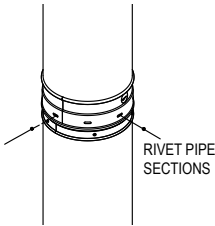

Figure 8
Duraliner pipe (flex and rigid) has male and female connectors with (4) pre-punched holes and slots that line up and are connected with stainless steel pop rivets **(Fig.8)**. Do not use screws. When connecting sections of flex pipe, it is necessary to first align the holes with the slots, and then drill through the flex